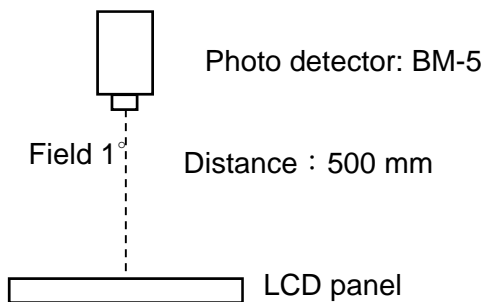

Fig. 6.1
- In the dark room less than 100 lx, the equipment has been set for the measurements as shown in Fig 6.1.